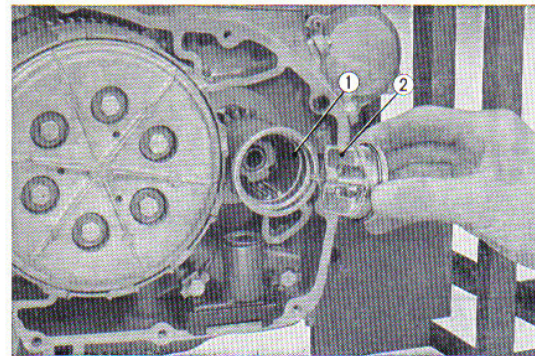

Fig. 3.79 Assembling the oil filter cap
3. Aligned filter cap head to the groove incorporated within the rotor wall, assemble the filter cap, install set the circlip. (Fig. 3.79)